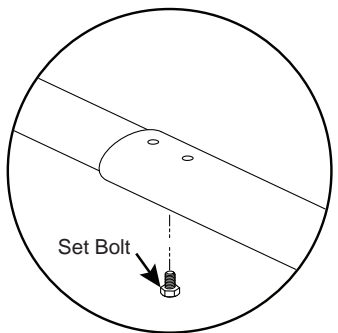

Figure 12. Set Temporary Arm Length
5. Loosen the set bolt on each arm and set the arms to length. Tighten the set bolts (Figure 12).
20. Remove the set bolts (Figure 12).